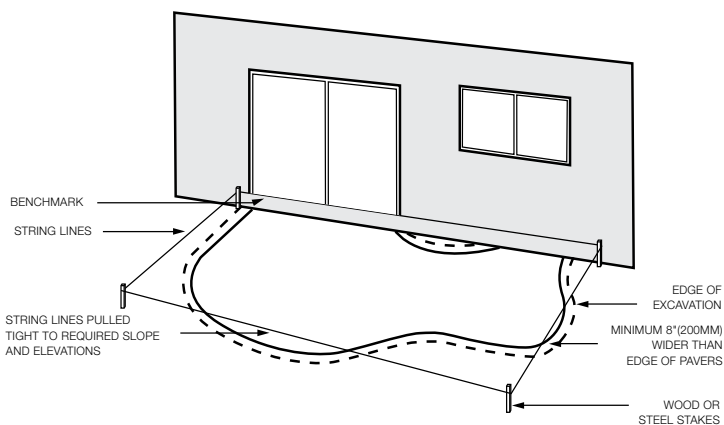

Figure 9. Project layout and staking
**Stake out the area** - Before excavation begins, mark out the perimeter with paint, locating all elements, such as steps, planters, raised patios, etc., In order to get a “feel” for the design. This will make it easier for the crew working on the job to understand the scope of the project. Set measurements and stakes with another crew member as a “double-check”. (Figure 9) Changes sometimes need to be made from the original plan due to certain site issues that were not addressed in the original design.